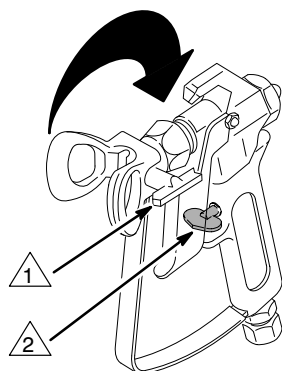

Fig. 5
1. If the spray tip does clog, release the gun trigger, engage the gun safety latch, and rotate the RAC IV handle 180°. See Fig. 5.